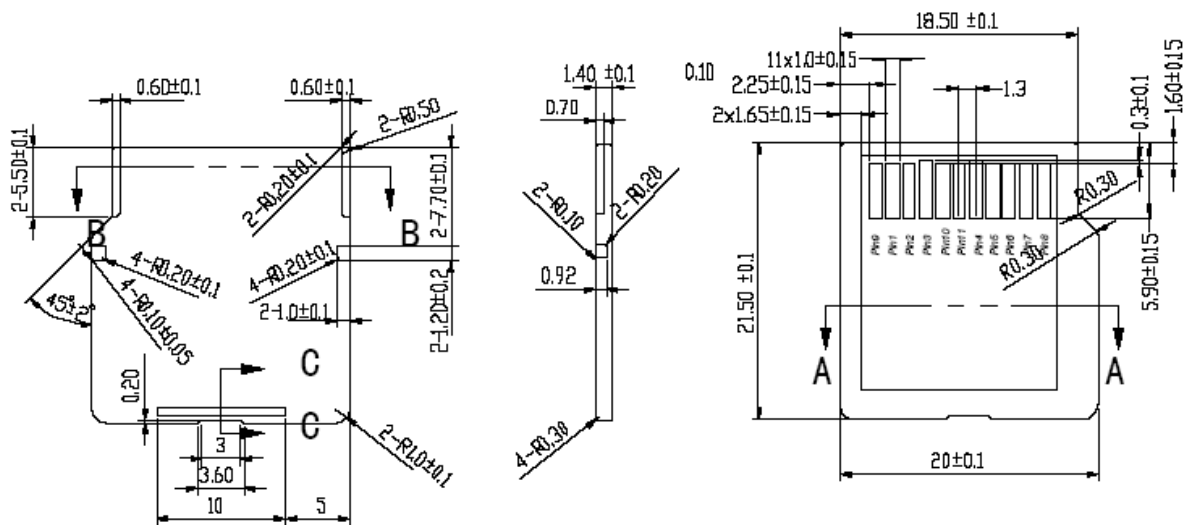

Fig 2 – miniSD Card Dimensions
- Fig 2 - miniSD Card Dimensions**